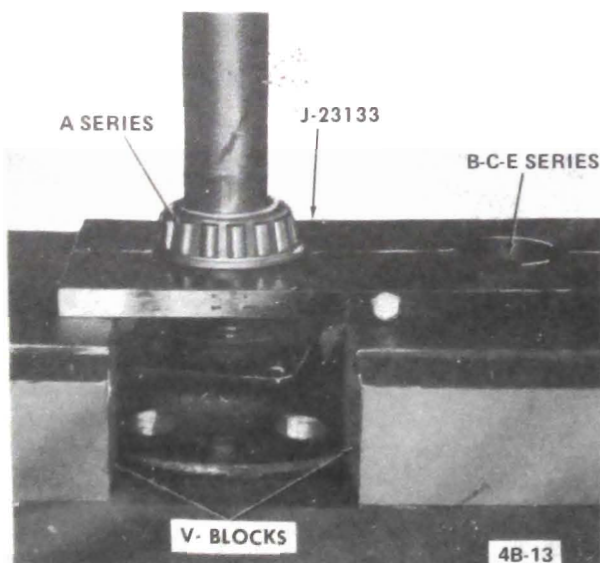

Figure 4B-13 Removing Axle Shaft Bearing
1. Position and tighten axle shaft in vise so that the retainer ring rests on vise jaws. Use a heavy chisel and hammer to crack ring. See Figure 4B-12. Do not use torch.